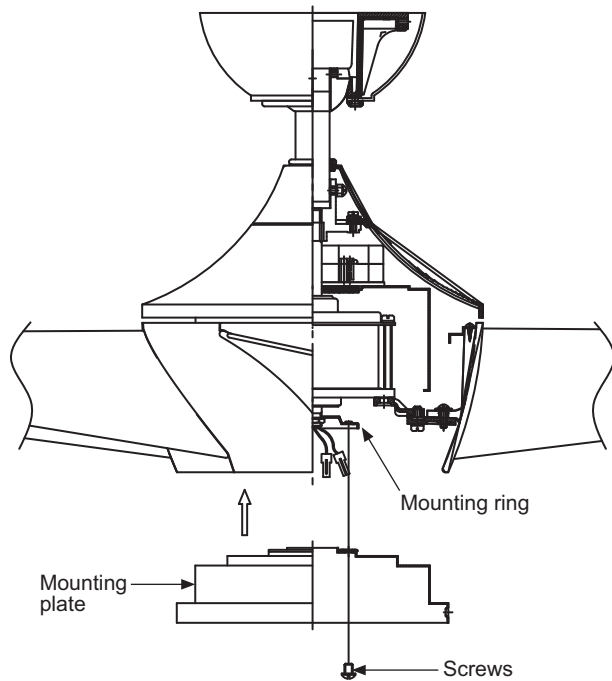

Fig. 17
Step 1. Loosen the two screws on the mounting ring attached to the motor shaft and "remove" and save the third screw. (Fig. 17)
Step 2. Place the key holes on the mounting plate over the 2 screws previously loosened from the mounting ring, turn mounting plate until it locks in place at the narrow section of the key holes. Secure by tightening the 2 screws previously loosened and the one previously removed. (Fig. 17)